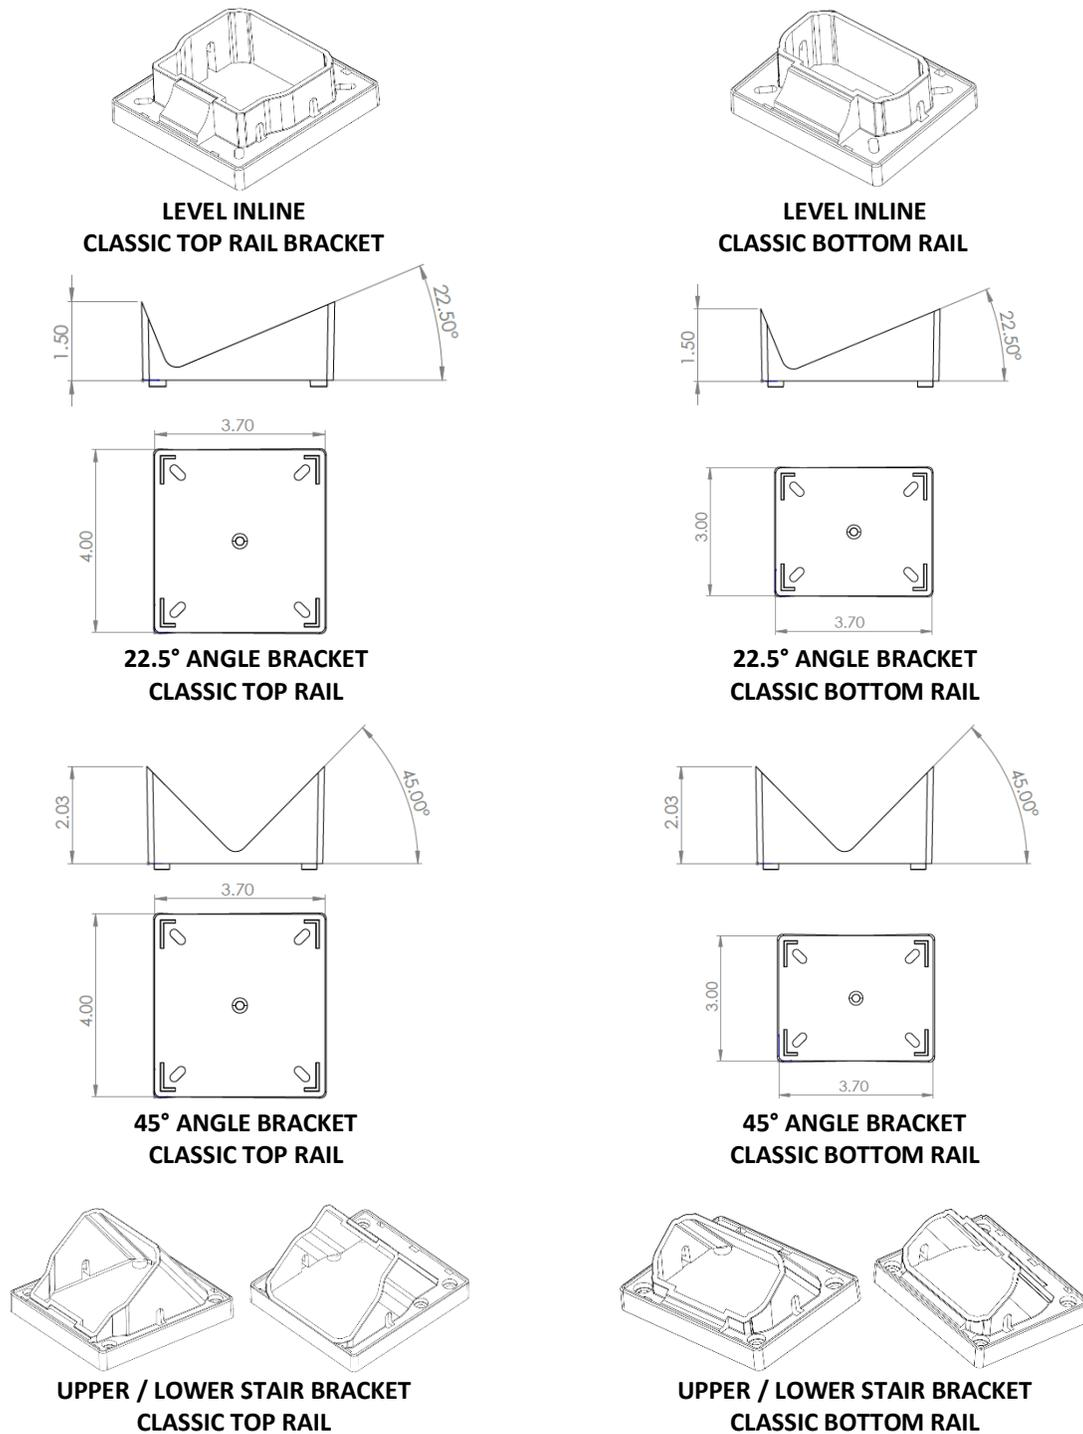

FIGURE 6 – CLASSIC GRAB & GO BRACKETS
**3.6** Top and bottom rails are attached directly to structural supports with molded plastic mounting brackets for level and stair applications. See Table 2, Table 3, Table 4, Figure 6, and Figure 8.